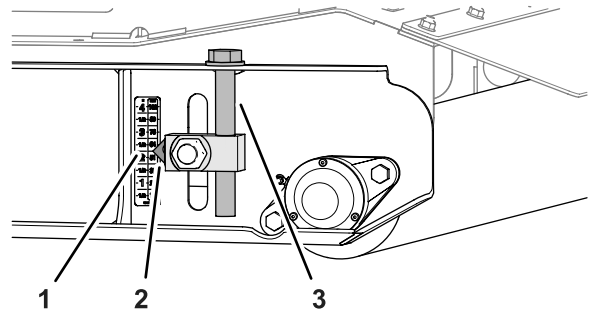

Figure 83
5. At the rear roller, raise the left and right height of cut adjusters to the 57 mm (2-1/4 inches) mark on the decal (**Figure 83**).